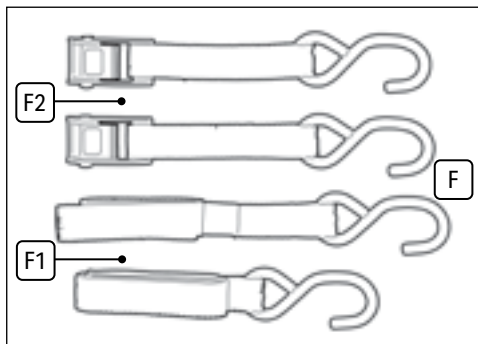

Fig. 11
7.1 Attach Sprayer to Vehicle (Fig.11)